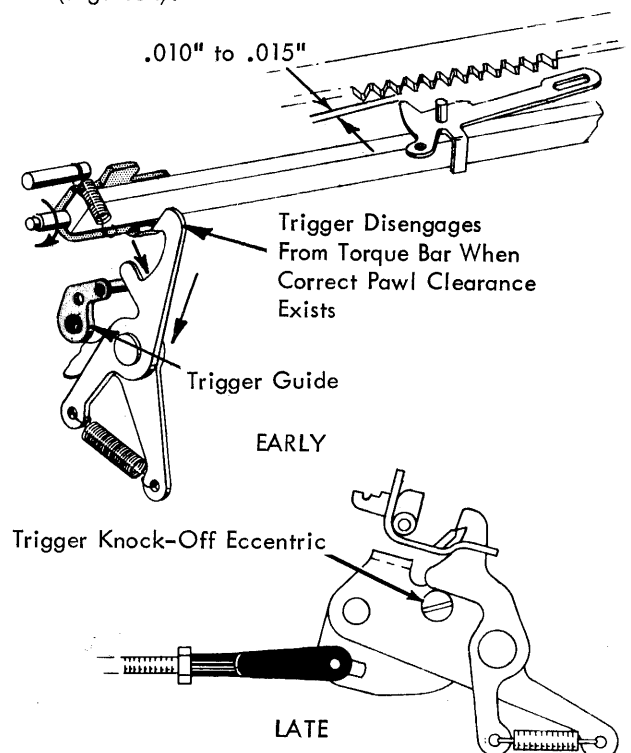

FIGURE 152. Escapement Trigger Guide Adjustment
8. Escapement Trigger Action - Adjust the trigger guide (early style machines) or the trigger knock-off eccentric stud (late machines) so that the escapement trigger will become disengaged from the torque bar lug when the escapement pawl clears the rack by .010" to .015" (Fig. 152).